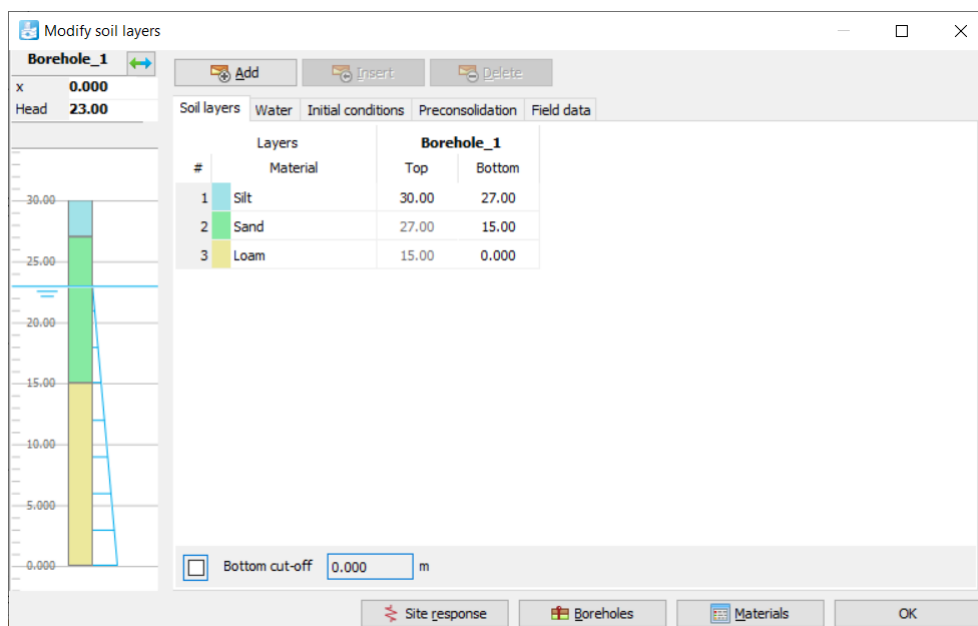

Figure 80: The Modify soil layers window
The layer stratigraphy is shown in Figure 80 (on page 103):
2. Assign the material data sets to the corresponding soil layers (Figure 80 (on page 103)).